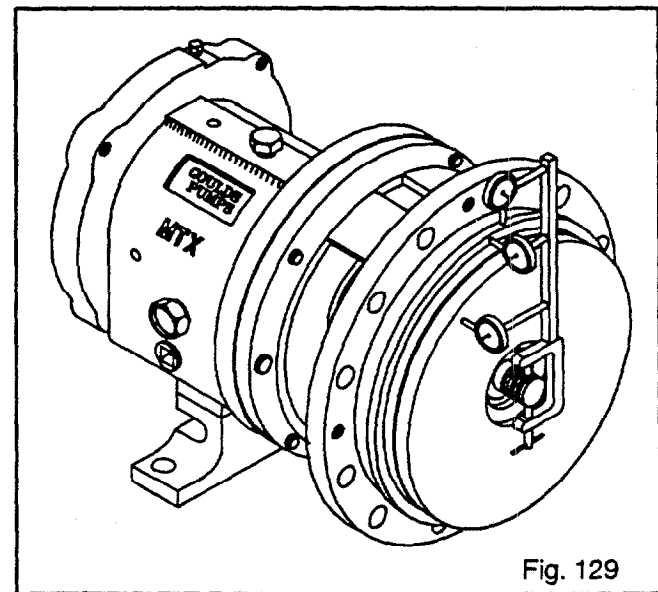

Fig. 129
9. Check stuffing box cover run-out. Rotate indicator through all 360 degrees. Total indicator reading greater than 0.005 in. indicates a problem (Fig. 129).